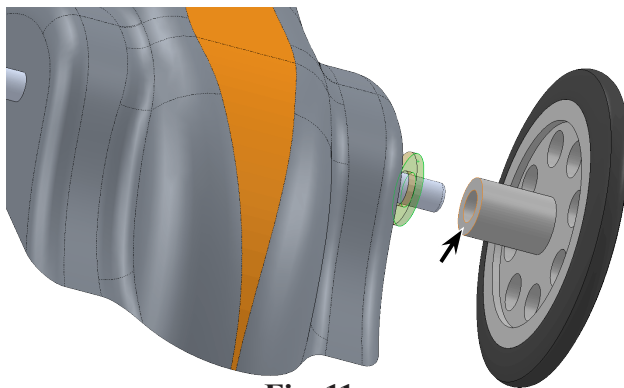

Fig. 11
Step 6. Use **Right arrow** key to rotate assembly to view inside face of **Front Rim**, **Fig. 11**.
Step 7. Click **inside face of Front Rim**, **Fig. 11**.